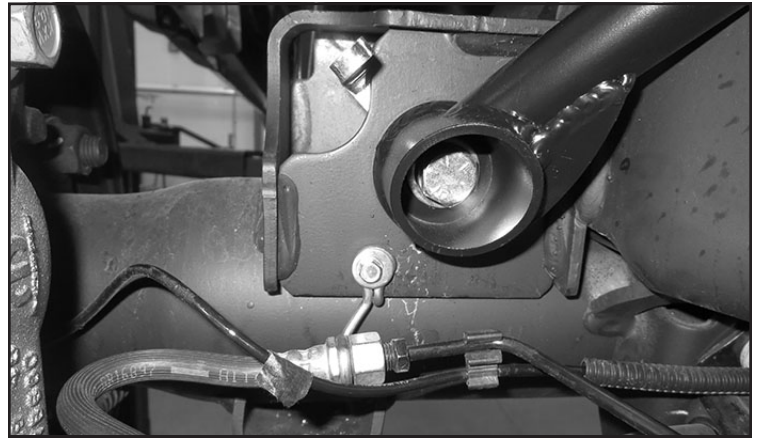

FIGURE 59 - STEP 49
49. Use the supplied #10 Tek screw and relocate the brake line bracket into the rear bumpstop pad. **SEE FIGURE 59**